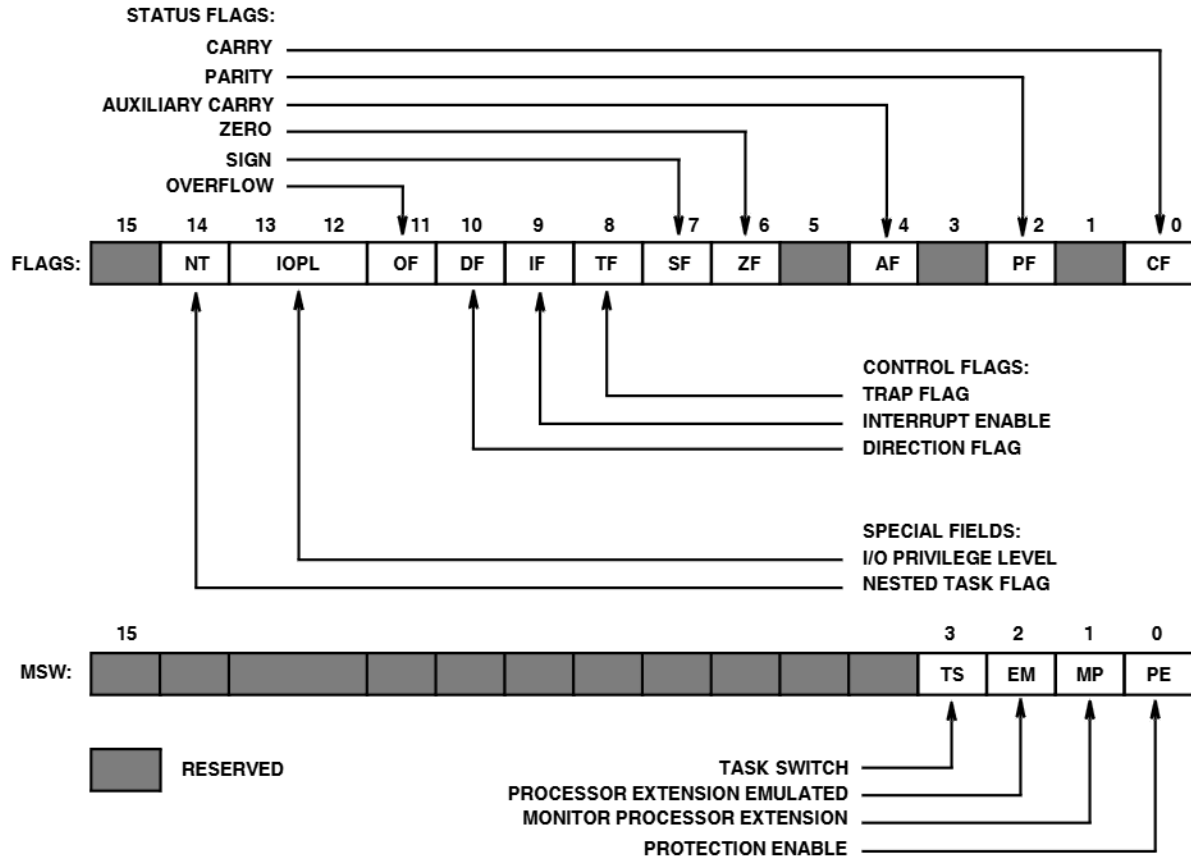

FIGURE 2. STATUS AND CONTROL REGISTER BIT FUNCTIONS
**STATUS AND CONTROL REGISTERS:** Three 16-bit special purpose registers record or control certain aspects of the 80C286 processor state. These include the Flags register and Machine Status Word register shown in Figure 2, and the Instruction Pointer, which contains the offset address of the next sequential instruction to be executed.